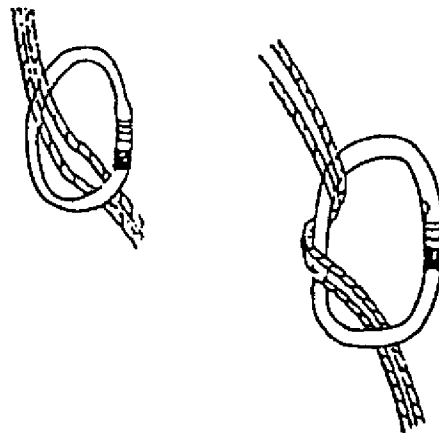
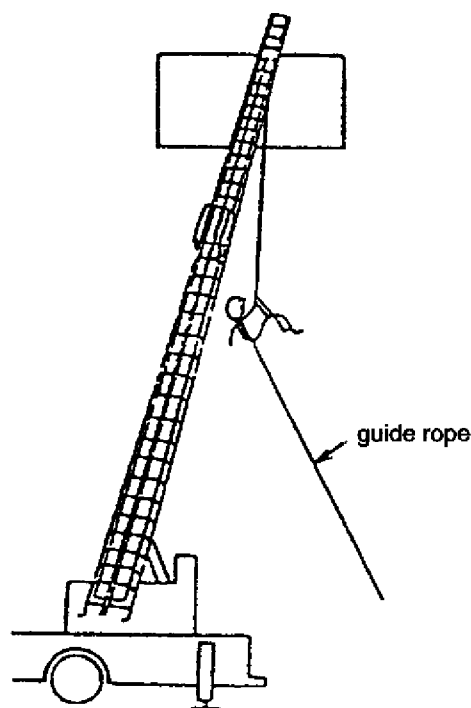

Fig. 7-17
Fig. 7-18
- d. Lay this rescue rope on the second or third rung from the top of the ladder and have it hang down behind the ladder. Wrap the rope from above around the ring of the carabiner serving as the load-bearing point at the top of the lifter so that the rope comes to the left side. (Fig. 7-17)
(4) Rescue
- b. Stand the ladder up and push it away from the building. (Fig. 7-18)